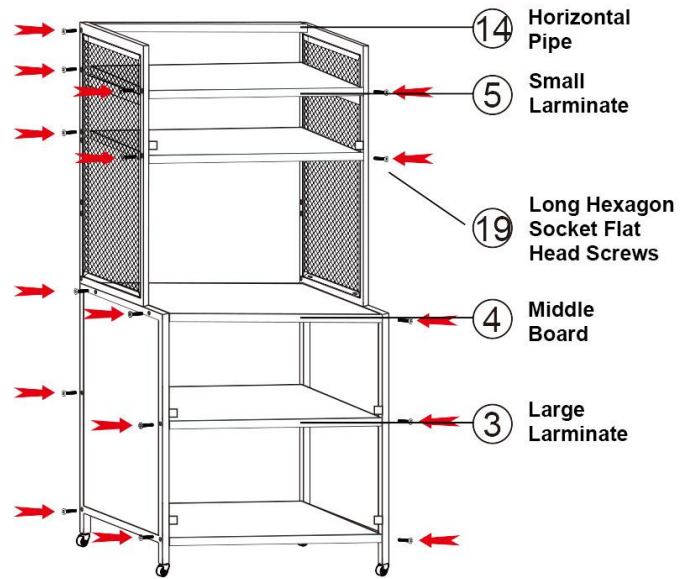

Figure 2
Step 2: Use long hexagon socket flat head screws to fix the bracket with the laminate and the horizontal pipe, do not lock it completely, as shown in Figure 2;